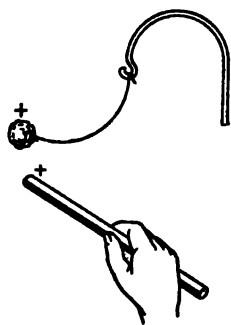

FIG. 190.—The pith ball charged by contact is repelled.
**217. Charging by Contact and Conduction.**—If a small pith ball is suspended by a silk thread, a charged rod brought near is at first attracted, but after contact is repelled (see Fig. 190) showing that the ball has become charged with the same kind of electrification that is upon the rod. That is, a charge given to an object by *contact*